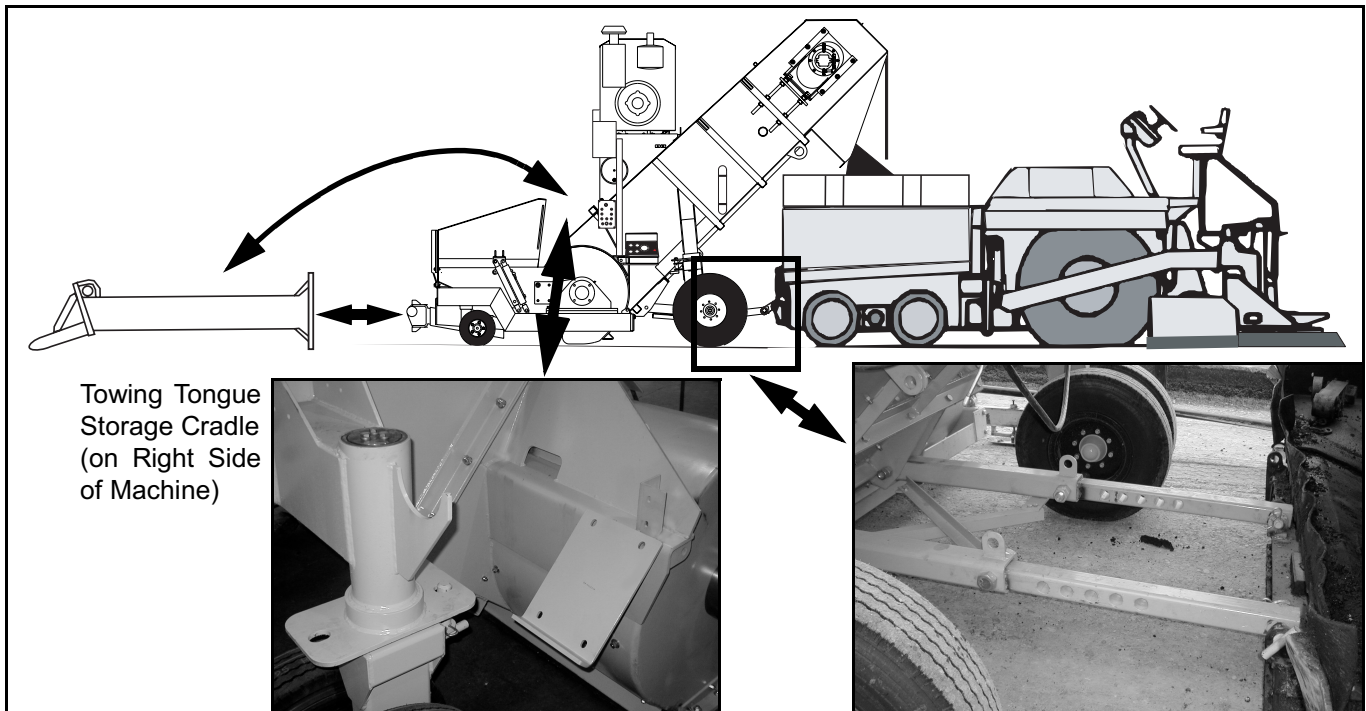

Figure 15 Attach MS-4 to Paver
- 12) Remove towing tongue and fasten into storage cradle on right side of machine (Figure 15).